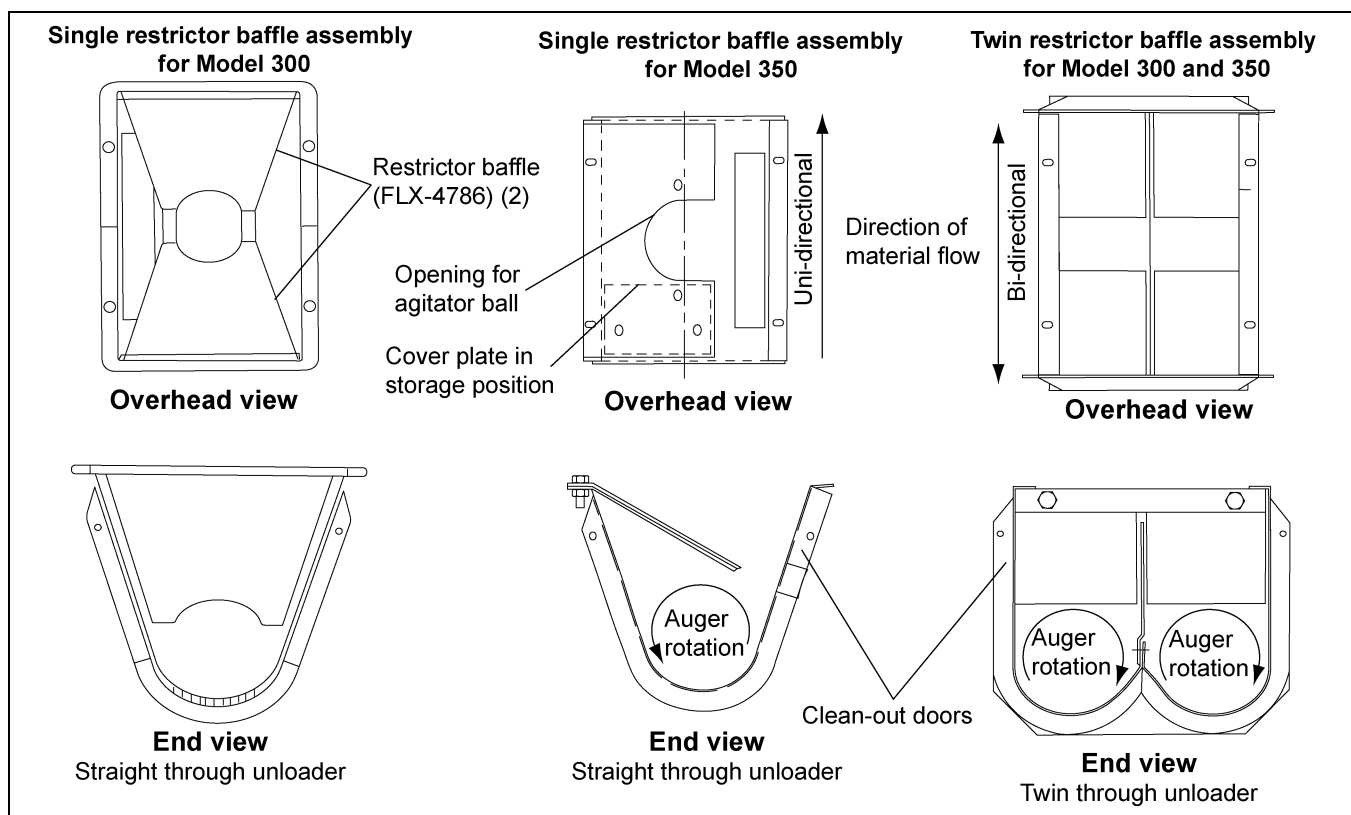

Figure 5H
2. Install baffle plate (FLX-4750) in the Model 350 single-through unloader as shown in Figure 5H.
The twin unloader baffle is factory installed as shown in Figure 5H.